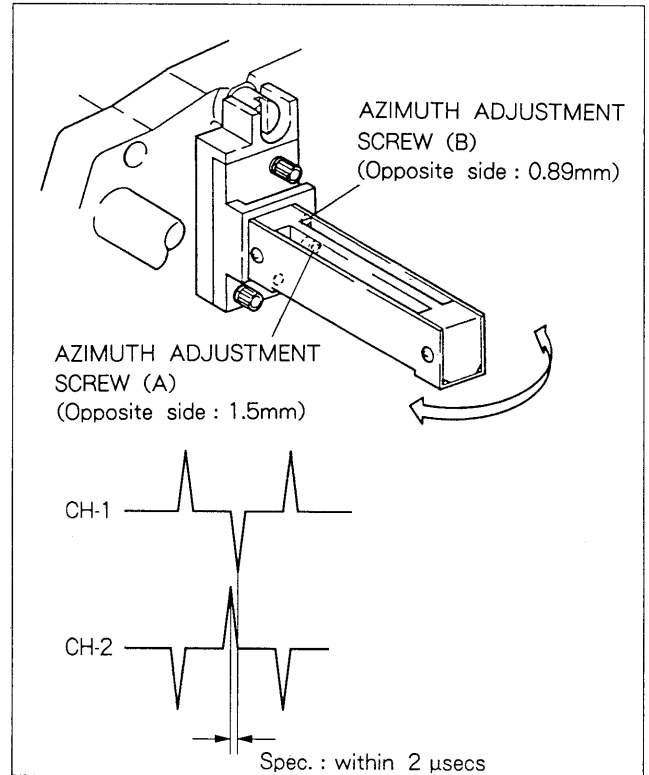

Fig. 9-6-6. Audio PB Head Azimuth Adjustment
- (2) Push the top of the PB head right and left with finger lightly and find the direction whose phase difference, CH-1 (DA. CH-1) and CH-2 (DA. CH-8), conforms to the specification in Fig. 9-6-6.
- (3) Turn and adjust the azimuth adjustment screws (A) and (B) as follows until the phase difference conforms to the specification.